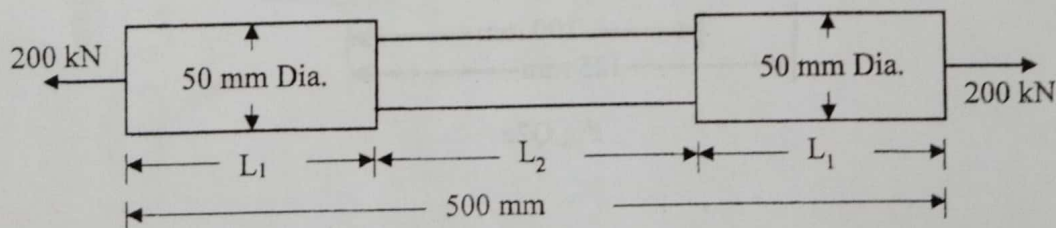

Fig. Q1e
- (e) The bar shown in **Fig. Q1e** is subjected to a tensile force of 200 kN at each end. Find the